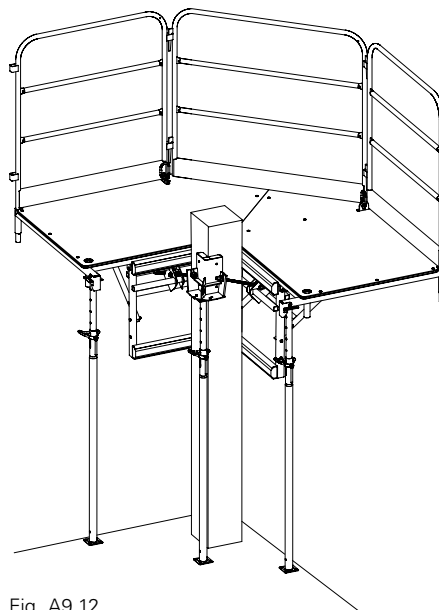

Fig. A9.12
7. Unhook the crane lifting gear from the slab formwork. (Fig. A9.12)